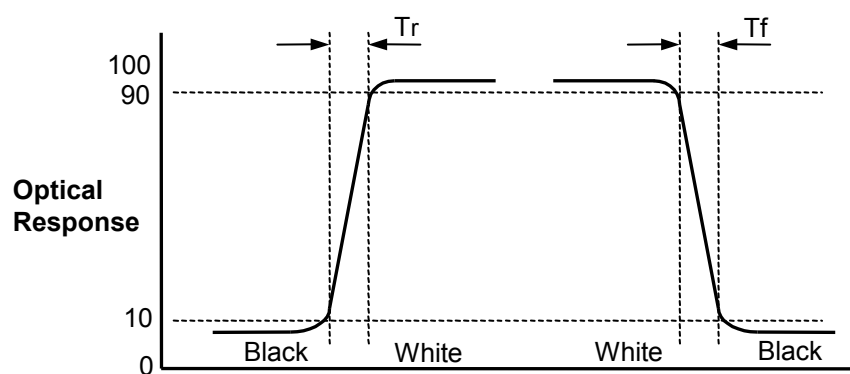

FIG. 8 Response Time
4. Response time is the time required for the display to transit from G(0) to G(255) (Rising Time, Tr) and from G(255) to G(0) (Falling Time, Tf). For additional information, see the FIG. 8.